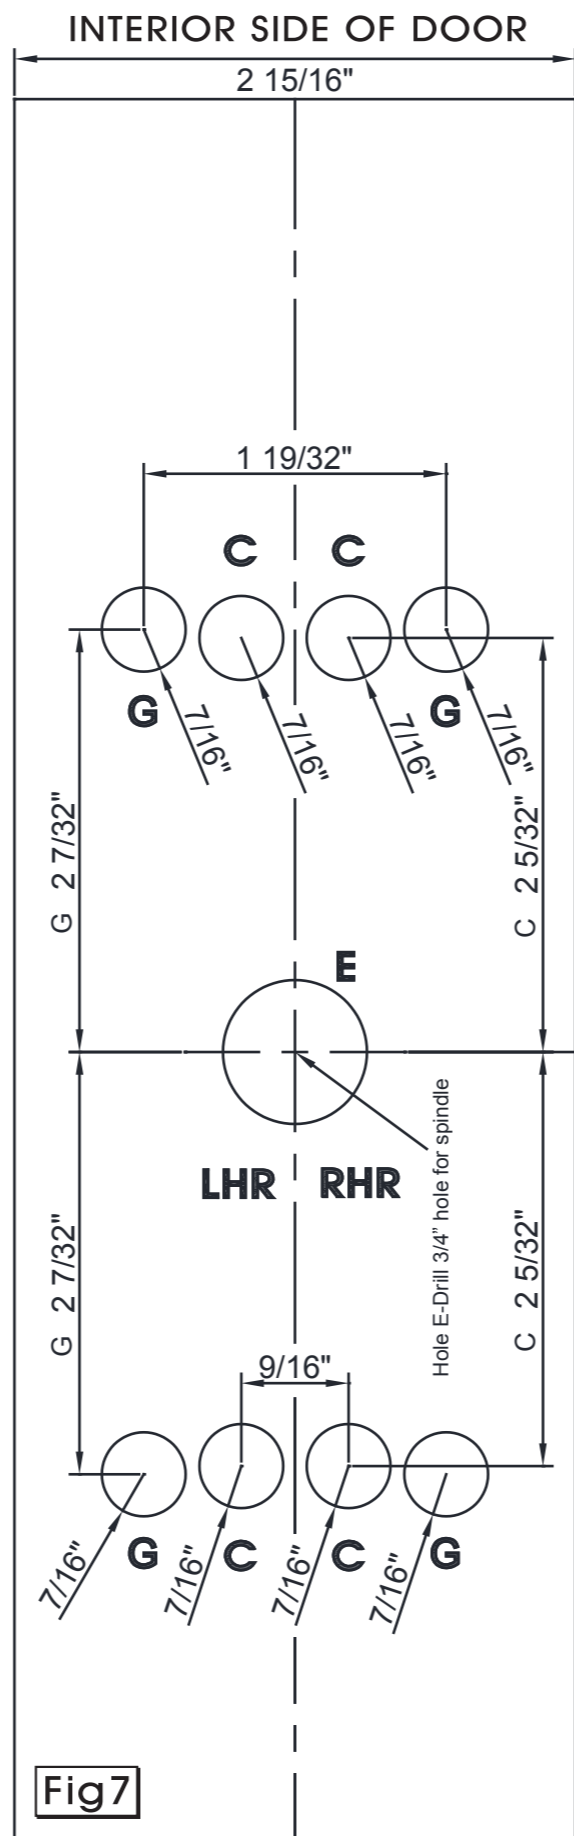
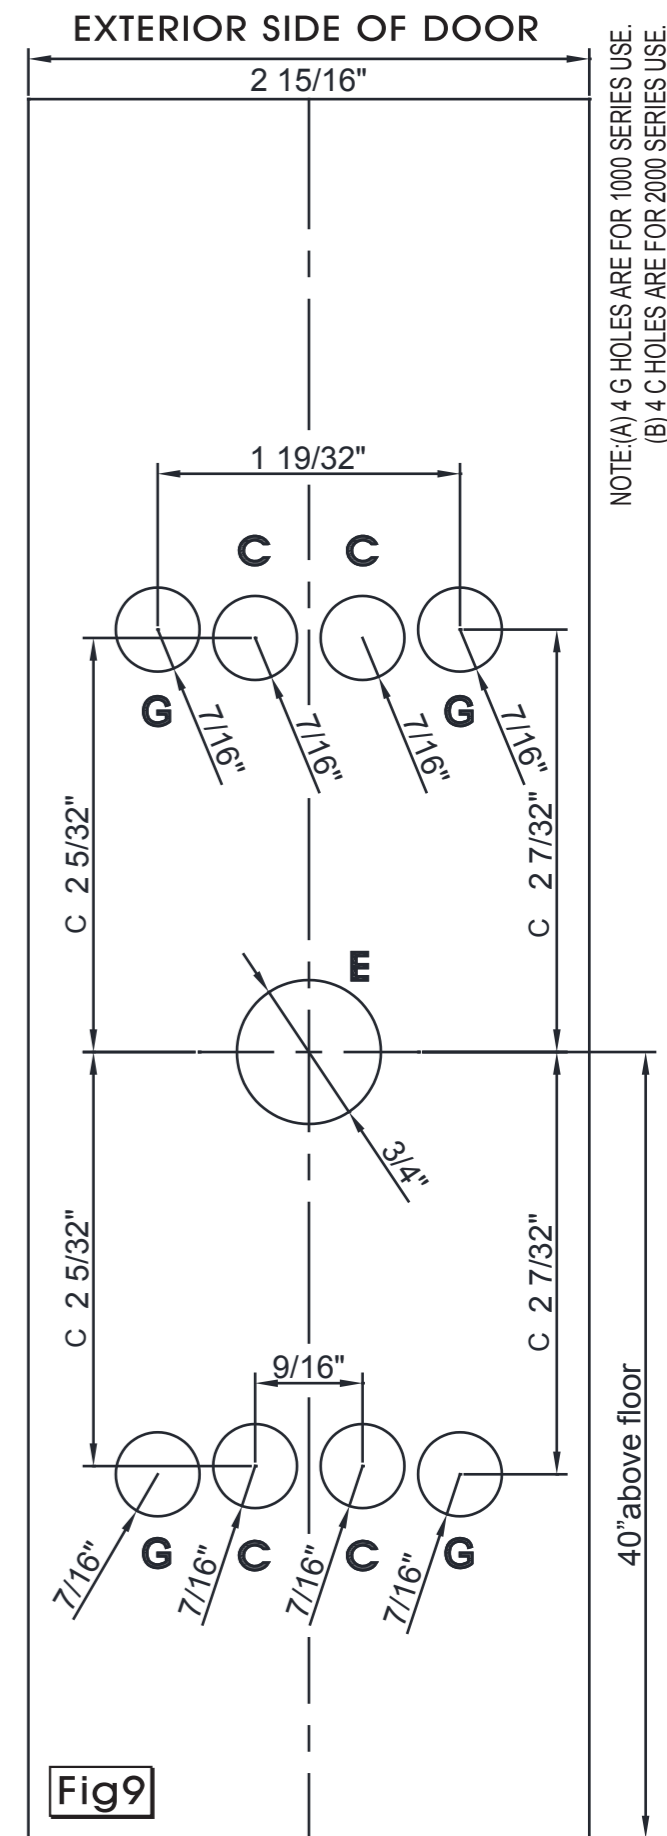

Fig7
Fig9
4. FOR 1000 SERIES SCREW THRU BOLTS INTO (4) G HOLES & FOR 2000 SERIES, SCREW THRU BOLTS INTO (4) C HOLES AND TIGHTEN.
7. PROCEED WITH TEMPLATING DOOR AS SHOWN IN FIG 7 AND FIG 9 FOR EITHER 1000 OR 2000 SERIES.